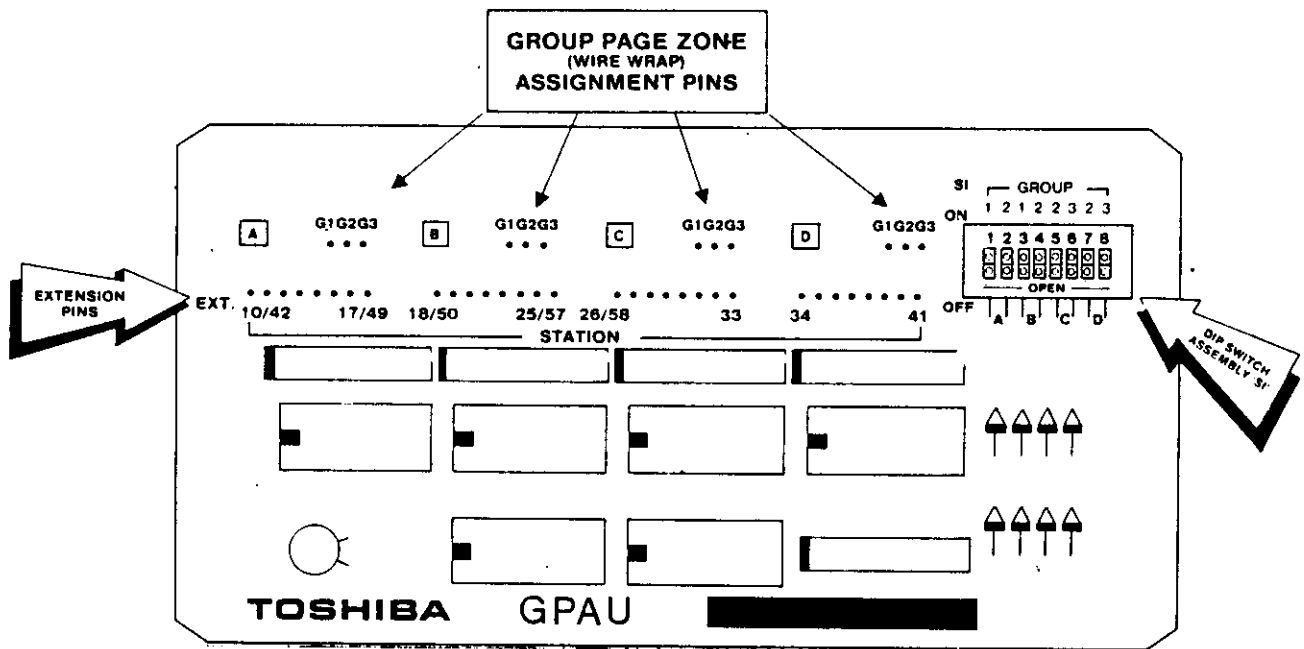

FIGURE 1-PHYSICAL LAYOUT OF GPAU PCB
2.8.2 Above each row of extension pins (row A, row B, row C, and row D) appear 3 pins labelled G1, G2, and G3. These pins represent the three possible Group Page zones. (See figure 1).